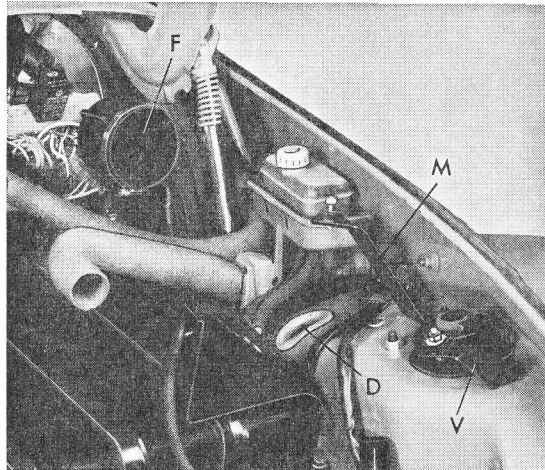

Figure 15
- 19 – Install footwell outlet (see Figure 15, part F).
- 20 – Secure front bracket (Part V in Figure 15) and center bracket (Part M in Figure 15).
- 21 – Install grommet for exhaust pipe and coat it with oil to facilitate installation of pipe (Part D, Figure 15).